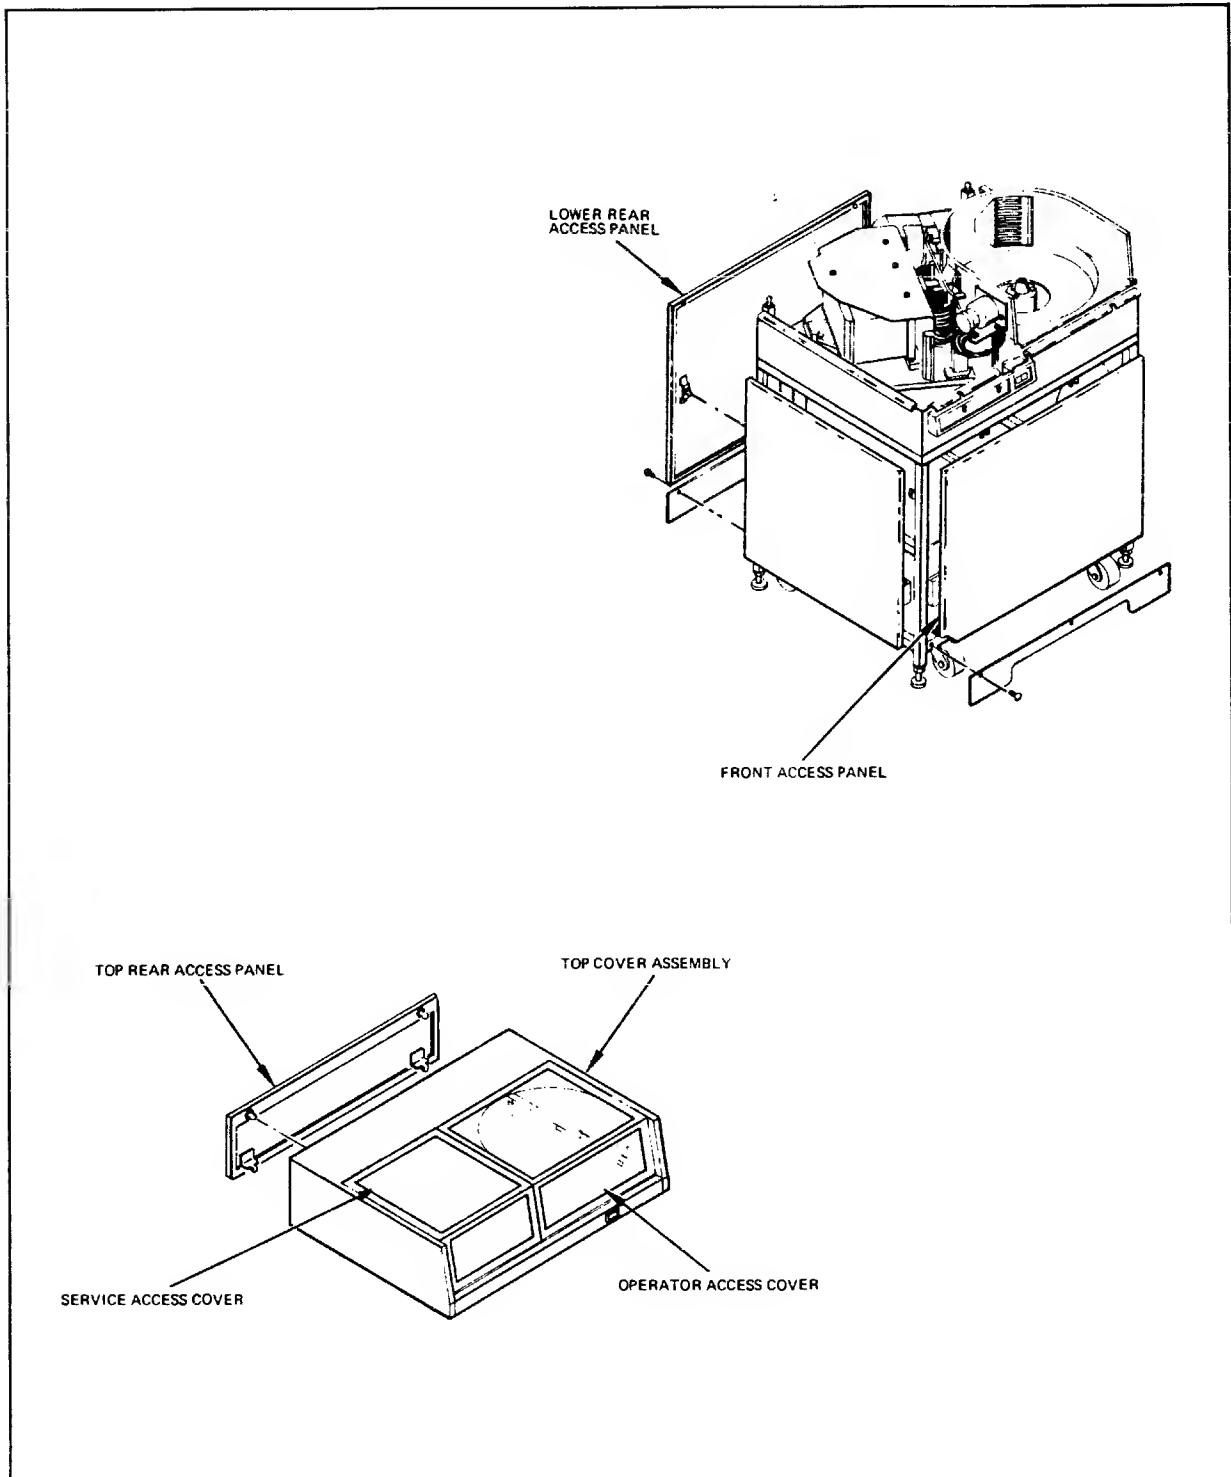

Figure 3-16. HP 2888A Service Access Covers
1. Remove the rear access cover and the package from inside the rear area (figure 3-16). Verify that the package contains two kick plates, six screws, an installation report form, and an identification marking strip. Do not replace the cover until all cables have been installed.